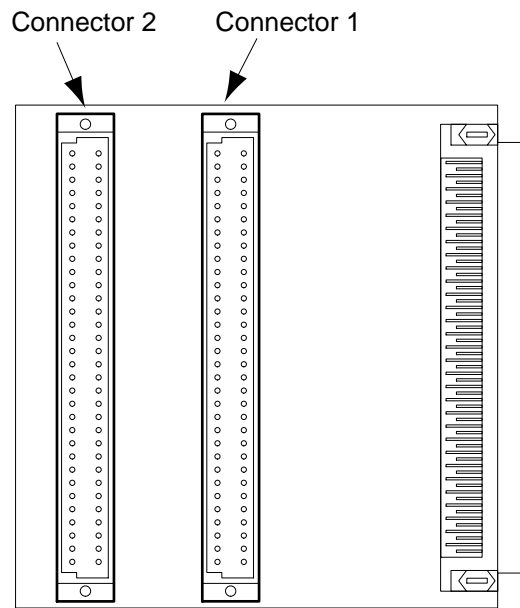

Figure 7.3 Test adapter
- Test adapter EL201810 (See Figure 7.3 Test adapter.)